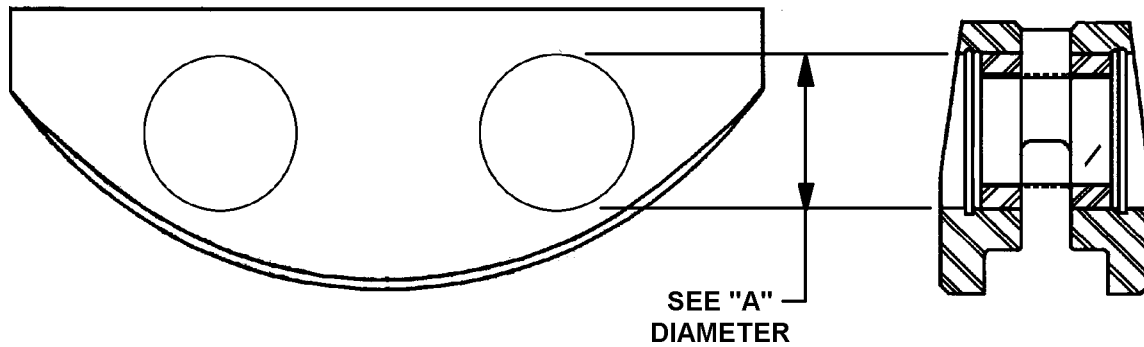

FIGURE 3. COUNTERWEIGHT BUSHING BORE INSPECTION
3. Federal Dimension Air Gauge with correct size Setting Ring and Air Plug or equivalent. See Figures 3 and 4 for specified bore sizes.
as specified total indicator reading (T.I.R.) See Figure 3, Counterweight